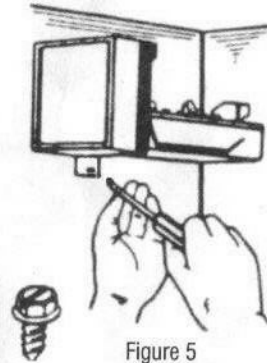
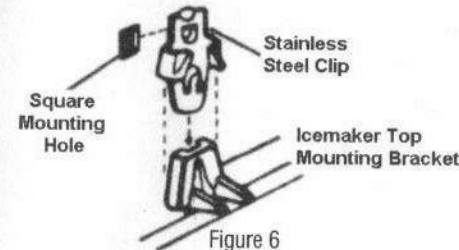

Figure 5
Figure 6
4. Install replacement icemaker, using old mounting hardware and mounting plate if required (see Figure 5). If old icemaker was mounted on square mounting holes you will need to use the two stainless clips provided. (see Figure 6)